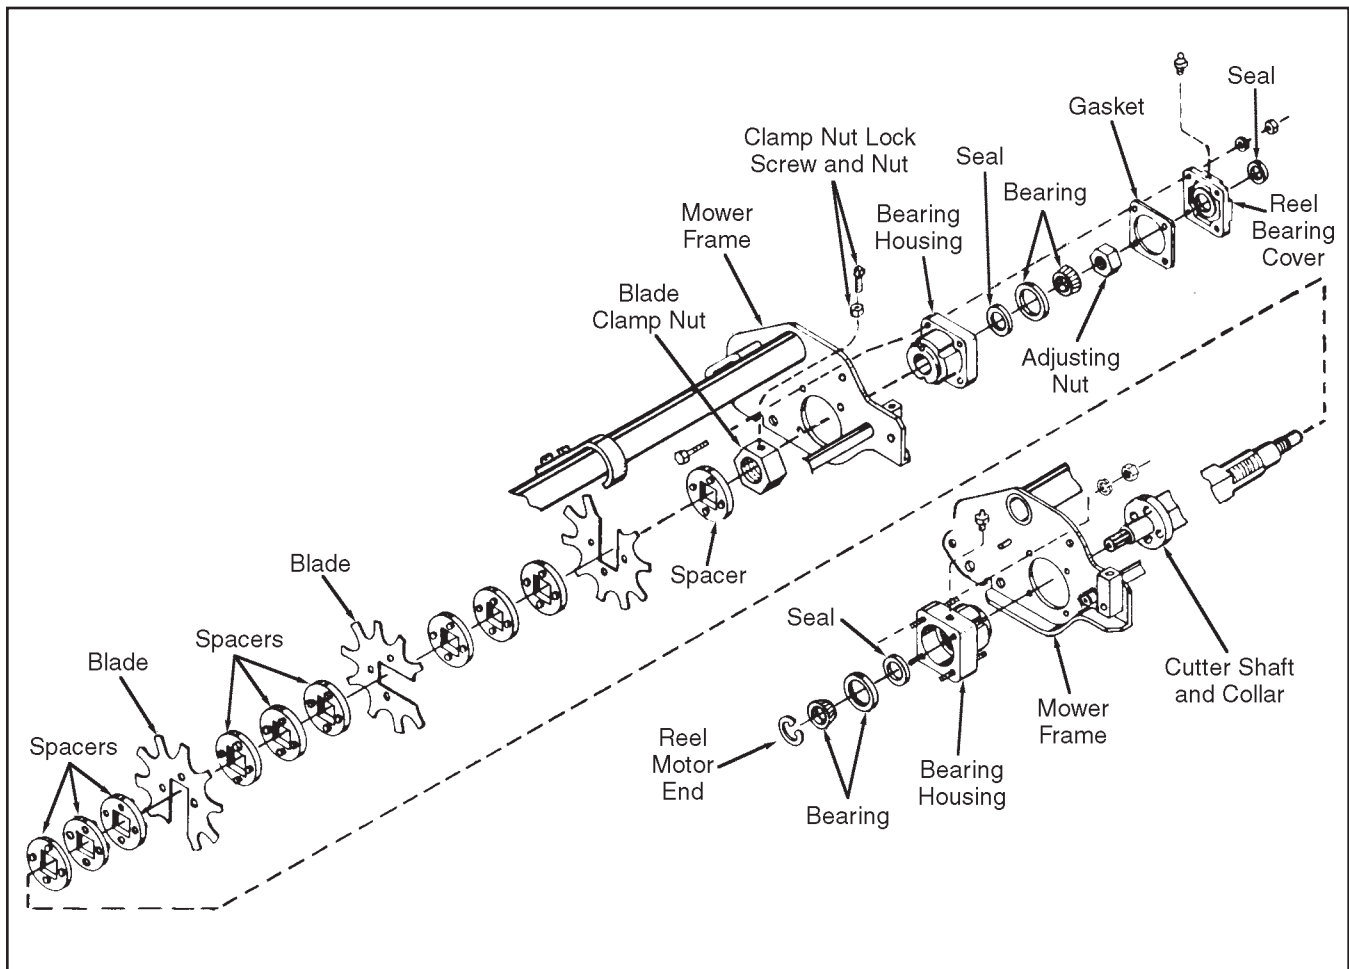

Figure 13B-1. Disassembly and Reassembly of Vertical Mower Assembly
2. Disassemble and reassemble the cutter assembly as shown in Figure 13B-1.